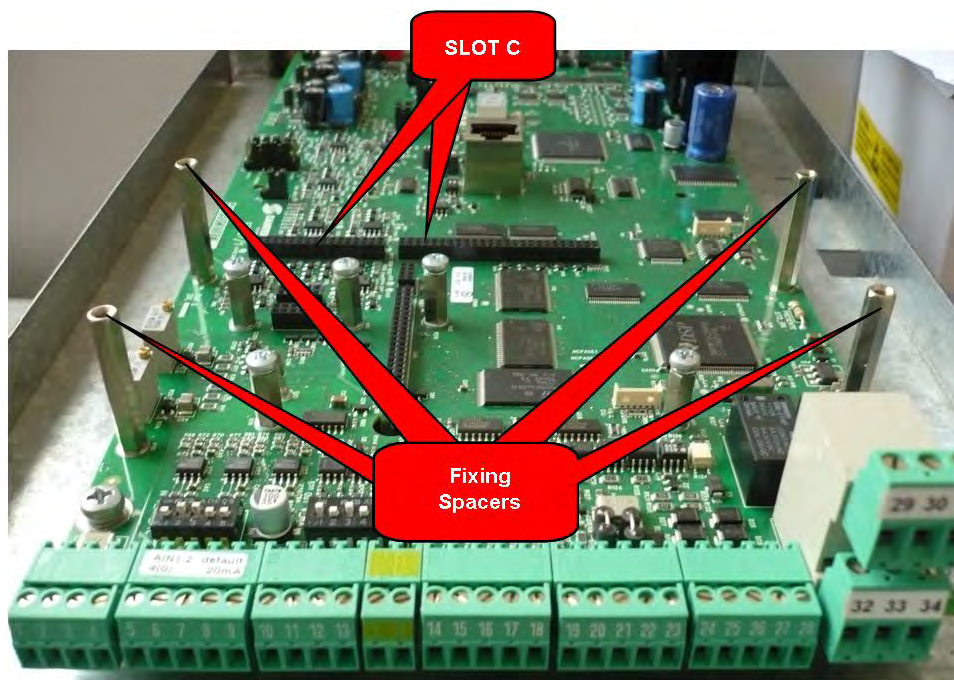
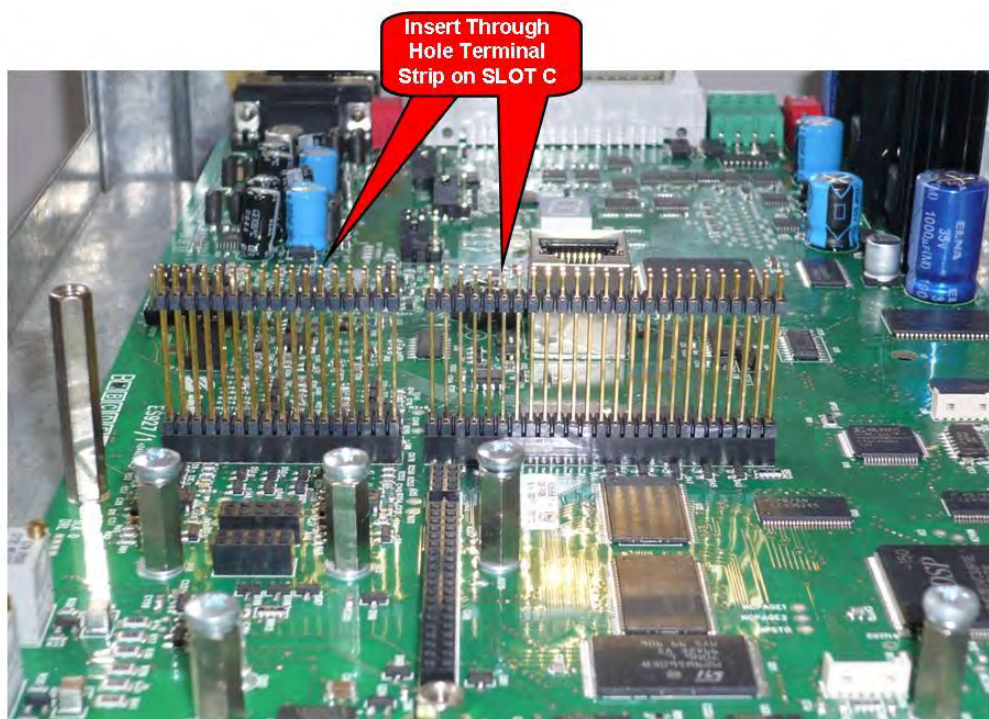
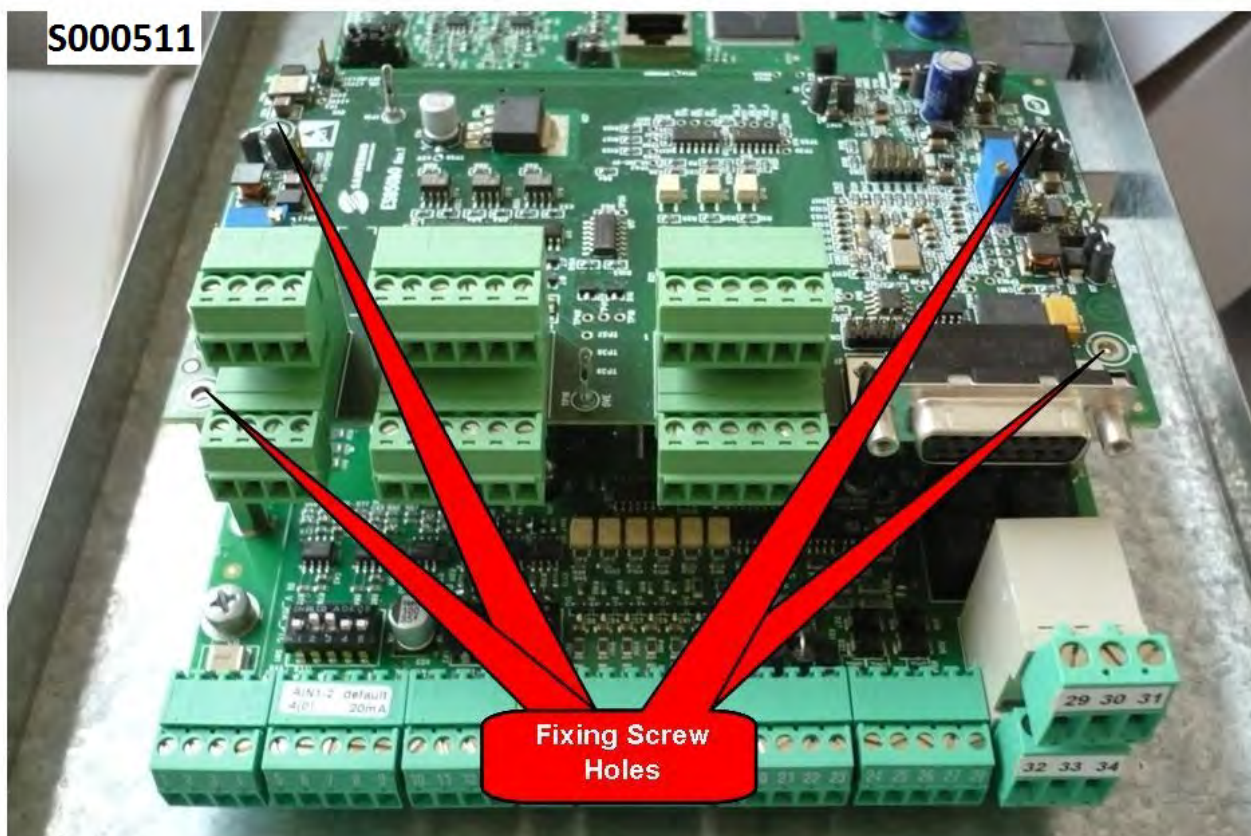

Figure 245: Location of slot C inside the PENTA terminal board cover
Figure 246: Inserting terminal strips to slot C
Figure 247: Fastening the ES966 inside the Penta drive
4. Insert the ES966 board into Slot C. Carefully align the contact pins with the two connectors in the slot (CN7A and CN7B). See Figure 245, Figure 246 and following figures. If the board is properly installed, the four fixing holes are aligned with the housing of the relevant fixing spacers screws. Check if alignment is correct, then fasten the four fixing screws as show in Figure 247.